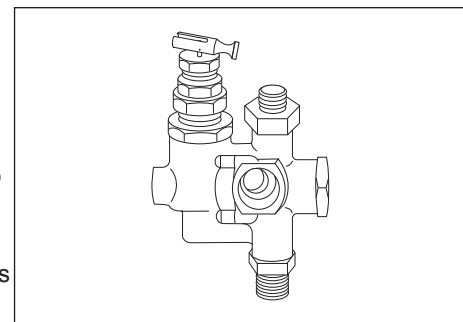

Figure 7 - Loaded Position
8. After approximately 30 minutes, move the unloader lever down to the loaded position. The compressor will begin to pump air into the tank. See Figure 7.
2. Start compressor and allow pressure to reach proper limit of unloader (See Figure 7) which is set at 135 psi. At this point, the compressor should unload through the breather bushing on unloader and the engine should idle down.